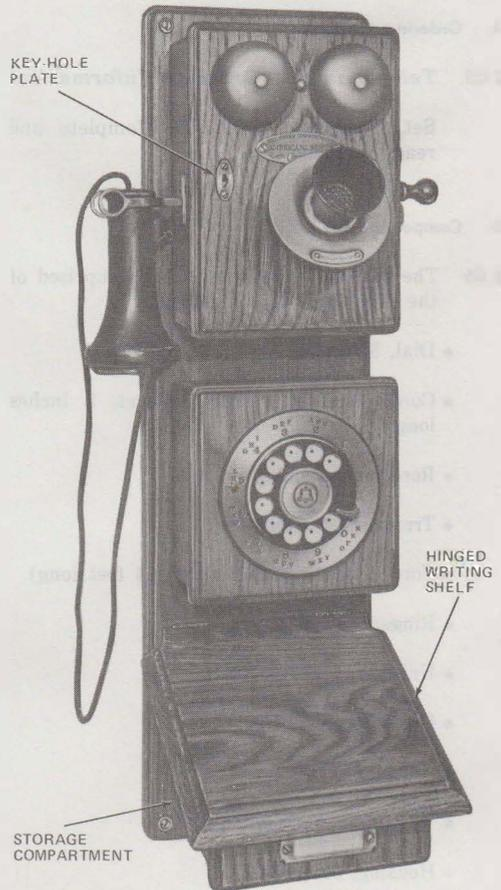
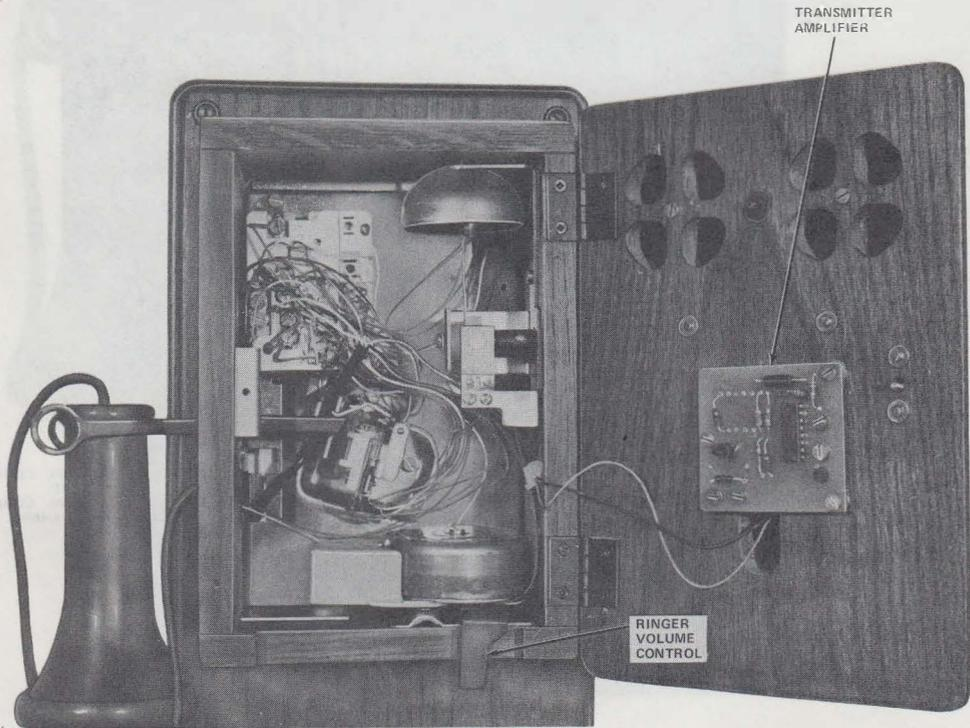

Fig. 1—952A1-03 DESIGN LINE Telephone Set
Fig. 3—952A1-03 Telephone Set With Front Panel Door Open
2.02 The telephone set (Fig. 1) is a simulated antique wall set. The metal trim details used on the set are antique nickel and the housing is real oak wood. On the right side of the set there is a manual crank which when turned rings a separate bell inside the telephone set. This bell is not part of the ringing circuit and is for looks only. At the bottom of the telephone set is a hinged writing shelf which covers a storage space for pencils, paper, etc.
3.03 To gain access to the interior of the set for wiring changes, insert a small standard blade screwdriver into the key-hole plate on the front of the telephone set (Fig. 1) and turn the screw counterclockwise until the front hinged panel of the housing is released and can be opened (Fig. 3).